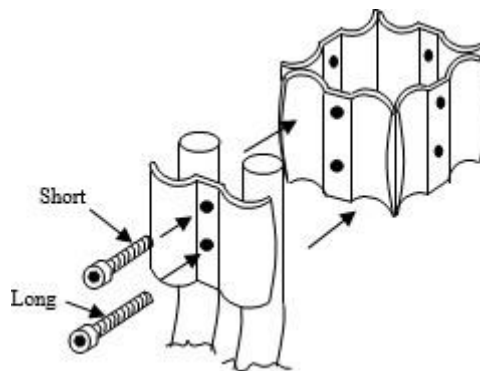

Figure 1: Attaching the Finial to the Gothic Curves
3. Referring to Figure 1, place the Wood Block in the Inner Clamp assembly. Assemble the Gothic curves by fastening between the Parallel Clamp and the Inner Clamp, using the long bolts to the bottom and the short bolts to the top. Do not fully tighten at this stage.